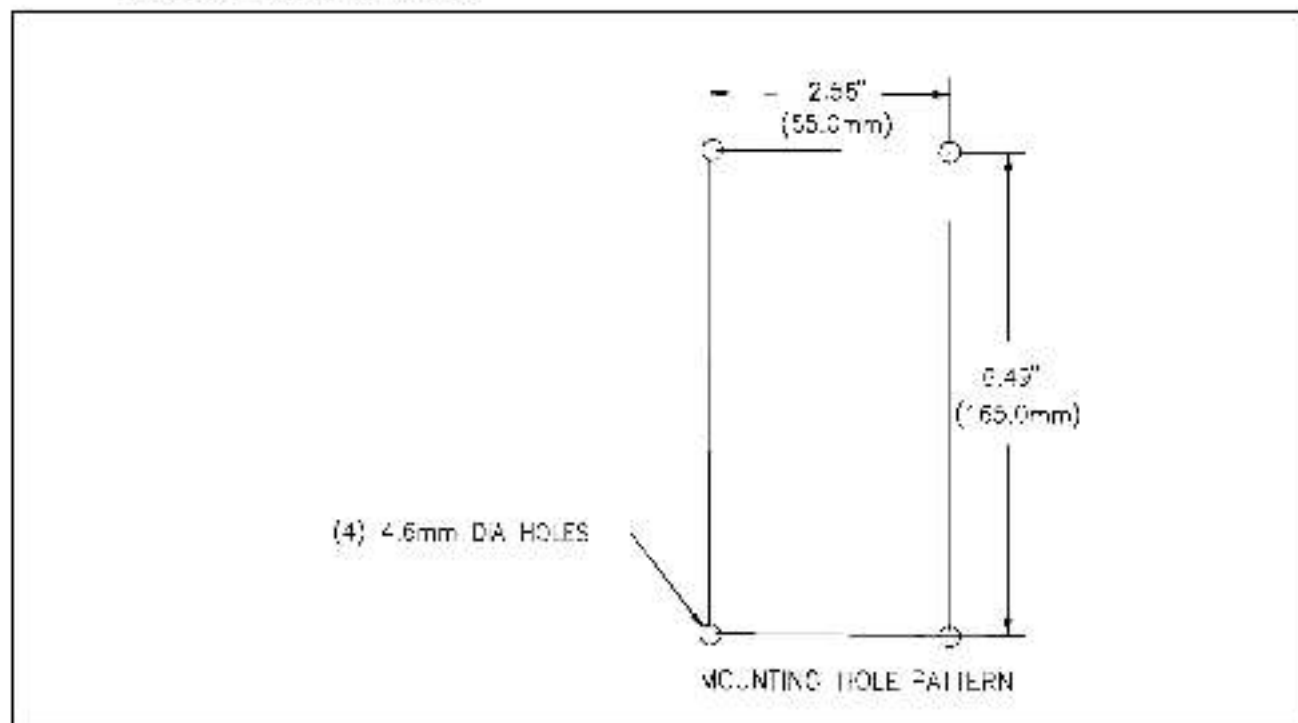

Figure 1—Inverting Fault Circuit Breaker Mounting Hole Pattern
Step 2: Drill the mounting holes (4.6 mm diameter) for the circuit breaker mounting plate using the mounting hole pattern shown in Figure 1.